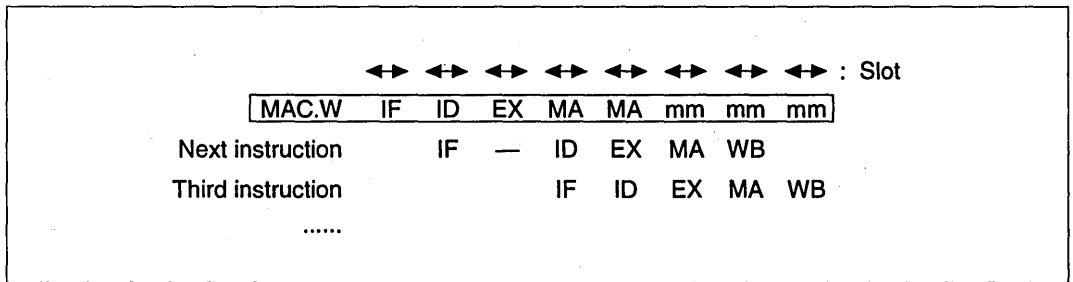

Figure 8.14 Multiply/Accumulate Instruction Pipeline
Operation: The pipeline has eight stages: IF, ID, EX, MA, MA, mm, mm, and mm (figure 8.14). The second MA reads the memory and accesses the multiplier. The mm indicates that the multiplier is operating. The mm operates for three cycles after the final MA ends, regardless of slot. The ID of the instruction after the MAC.W instruction is stalled for one slot. The two MAs of the MAC.W instruction, when they contend with IF, split the slots as described in section 8.4, Contention Between Instruction Fetch (IF) and Memory Access (MA).